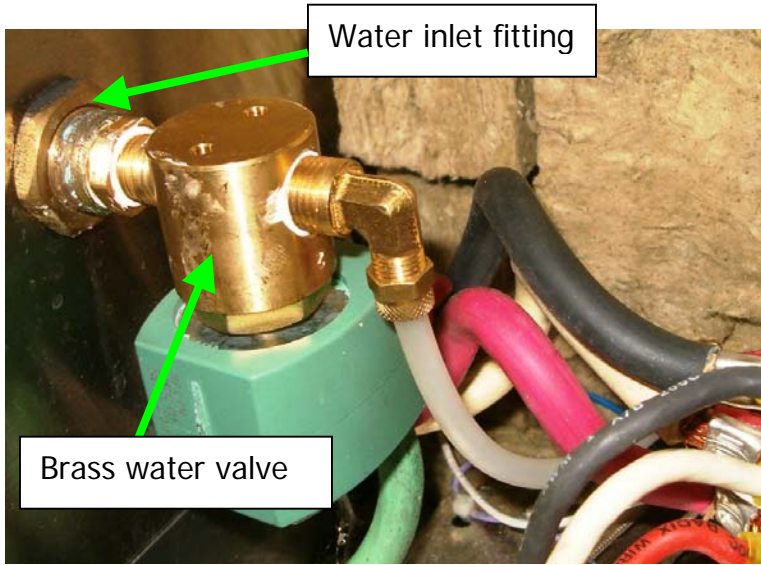
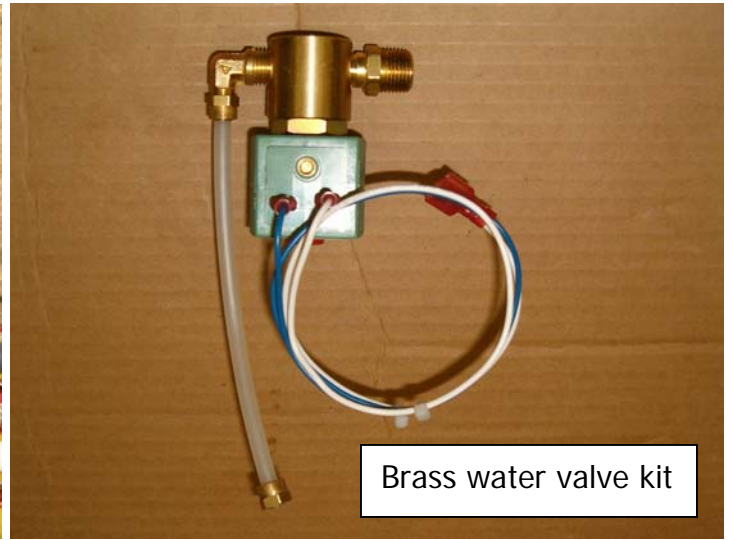

Fig. 3
Fig. 4
For auto-fill and Evolution steamers with serial numbers prior to 27604, some of the plastic body water valves develop a leak. This valve was discontinued and replaced by a heavier duty brass valve. Two basic mounting schemes were used prior to the brass valve, which are shown in Figs. 1 and 2. These mounting schemes were changed to the configuration of mounting the single brass valve onto the steamer enclosure back wall (see Fig. 3). This bulletin describes the removal of the plastic water valves and installation of the replacement brass water valve kit.
3) Install the brass water valve kit (Fig. 4) into the water inlet fitting (Fig.3), which is mounted on the back wall of the steamer enclosure, using thread sealant.